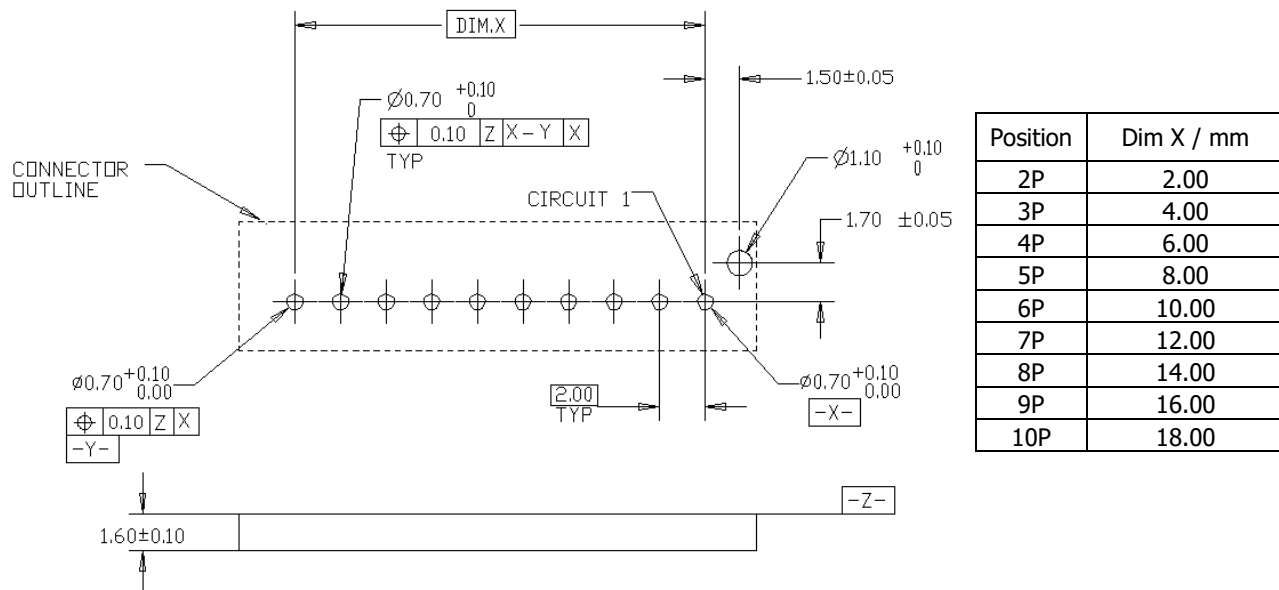

Figure 9
- The mounting and contact holes in the PC board must be precisely located to ensure proper placement and optimum performance of the header assembly. Design the PC board using the dimensions provided in Figure 9. The layout shows the top (component) side of the board.